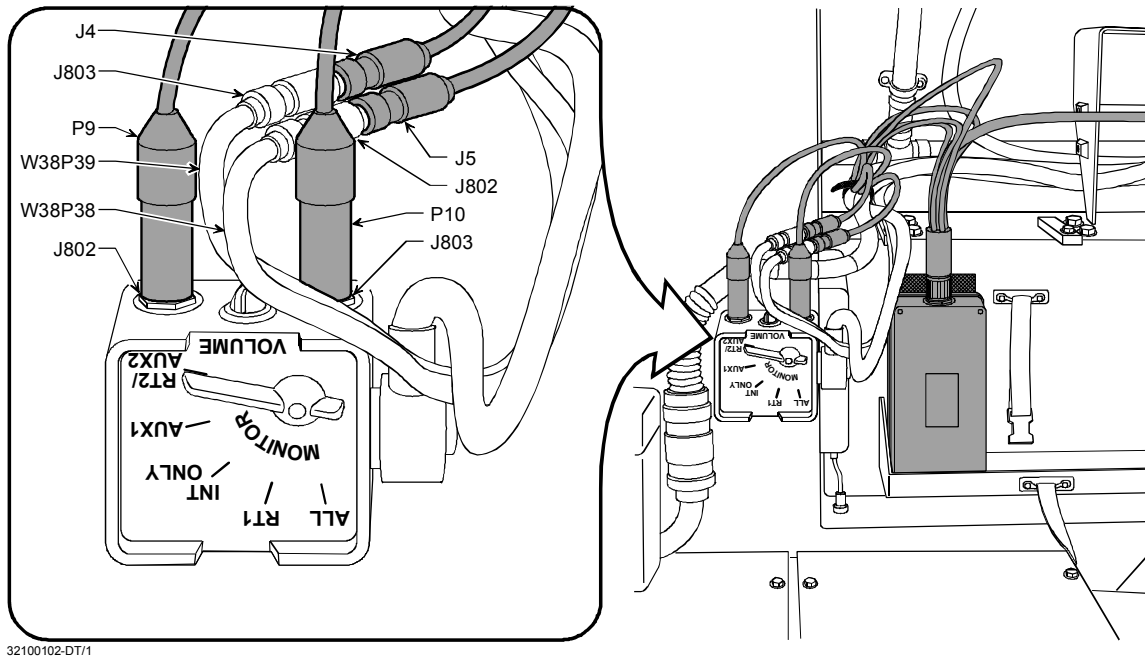

Figure 2-27. Intercom Cables Connection.
- i. Route segments (P9), (J4), (P10), and (J5) to the intercom unit at the gunner's station. (See Figure 2-27.)
- j. Disconnect the vehicle system W38P39 cable from the J803 connector on the intercom unit. Connect (P9) to the J803 connector. Connect (J4) to the removed W38P39 cable. (See Figure 2-27.)
- k. Disconnect the vehicle system W38P38 cable from the J802 connector on the intercom unit. Connect (P10) to the J802 connector. Connect (J5) to the removed W38P38 cable. (See Figure 2-27.)